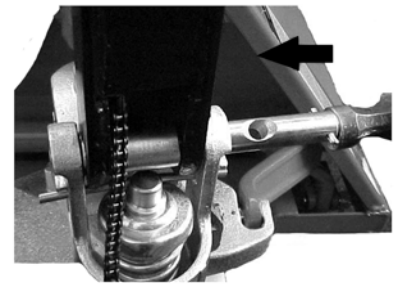

Fig. 6: Axle assembling
- a) Insert the tiller arm(1) into the pump piston, then use a hammer to insert the axle with hole into the hydraulic pump and tiller arm (Fig. 6).